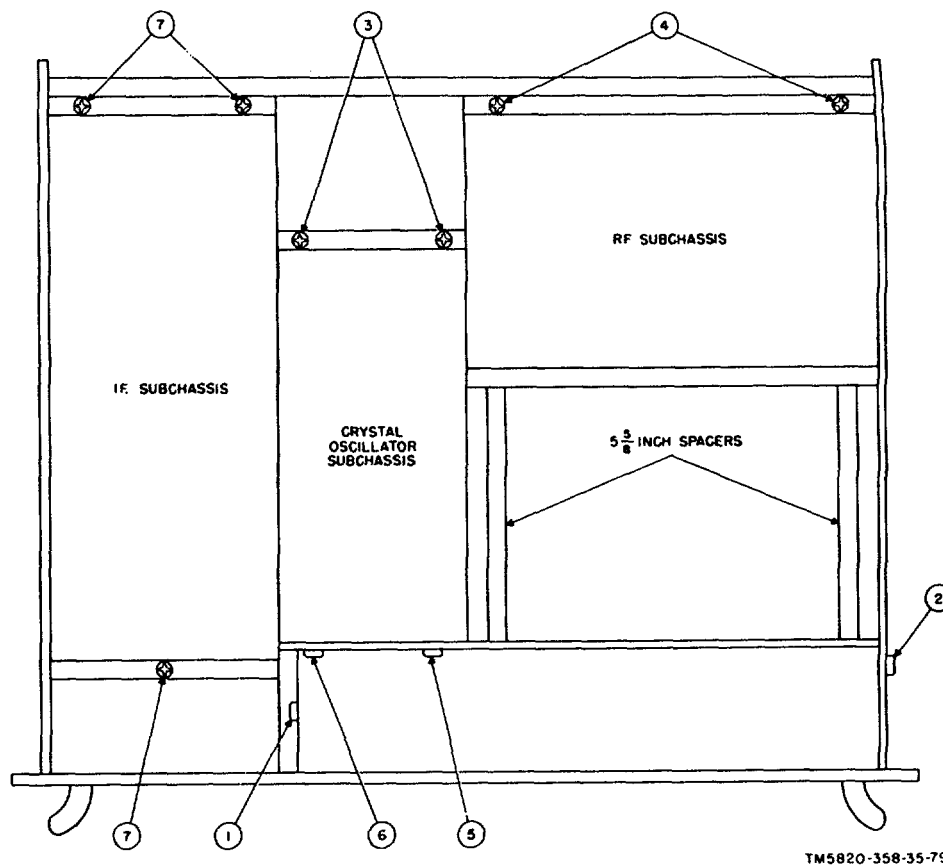

Figure 66. Rf, if., and crystal-oscillator subchassis removal and replacement, location of screws.
- (4) Replace and secure the front panel with the eight 5/8-inch by 8-32 screws and the five 7/16-inch by 6-32 screws and the five lockwashers.
- (5) Tighten the DIAL LOCK hexagonal nut with a 1/2-inch socket wrench. Replace the knob, allowing a 1/8 inch clearance between the knob and the front panel.
- (6) Replace the remaining knobs on their respective shafts. Allow a 1/8-inch clearance between the front panel and the MEGACYCLE CHANGE and the KILOCYCLE CHANGE control knobs.
- (7) Engage and tighten the shaft couplings on the BANDWIDTH and BFO PITCH controls. Be sure that the BANDWIDTH control knob is tightened on the 16 position and that the BFO PITCH control and the ANT TRIM knobs are tightened to 0.
- (8) Turn all the knobs previously removed through their entire range, and check for smoothness of operation and freedom from binding.
59. Removal and Replacement of Rf Subchassis (fig. 66)
- (6) Remove the two 1/2-inch by 6-32 Phillips green-headed screws and lockwashers ((1), fig. 66) through the access hole provided in the left side of the main frame. These two screws are in a vertical row.
- (7) Remove the three 1/2-inch by 6-32 Phillips green-headed screws and lockwashers ((2), fig. 66) that are located at the right side of the main frame. These three screws are in a vertical row.
- (8) Loosen the two green-headed captive screws ((3), fig. 66) and the two green headed captive screws ((4), fig. 66).
- (4) Engage the two green-headed captive screws ((3), fig. 66) at the rear of the crystal-oscillator subassembly; do not tighten them. Engage, but do not tighten, the two green-headed captive screws ((4), fig. 66) at the rear of the rf subassembly.
- (5) Engage the three Phillips greenheaded screws with their lockwashers ((2), fig. 66) and the two Phillips green-headed screws ((1), fig. 66). Engage the two Phillips green-headed screws and lockwashers at the front under the clutch gear and tuning mechanism.
- (6) Tighten all the green-headed screws in the following order:
- (a) Three marked (2).
- (b) Four captive screws marked (3) and (4).
- (c) Two marked (1).
60. Removal and Replacement of Crystal Oscillator Subchassis (fig. 66)
a. *General.* Two methods can be used for the removal of the crystal-oscillator subchassis. This procedure, however, is for the removal of the crystal-oscillator subchassis when the rf subchassis is to be retained in the main frame of the receiver. When the rf and crystal-oscillator subchassis have been previously removed from the main frame, omit the procedures given in (1), (7), and (9) below.
This makes 5/16-inch by 6/32 Phillips greenheaded screws ((5), fig. 66) accessible.
- (4) Remove the screw ((3) above) and its lockwasher and the two greenheaded screws and their lockwashers ((6), fig. 66). The latter two screws are in a vertical row.
- (6) Loosen the two green-headed captive screws ((3), fig. 66) at the rear of the crystal-oscillator subchassis.
- (3) Place the subchassis in position on the deck of the main frame, and carefully slide it forward and engage the drive shaft.
- (4) Engage, but do not tighten, the two green-headed captive screws at the rear of the subchassis.
- (5) Tighten the setscrew in the shaft coupler on the crystal-oscillator drive shaft, and be sure that the coupler and gear are pushed against the oilite bearing on the subchassis.
- (6) Replace the three Phillips greenheaded screws and their lockwashers ((5) and (6), fig. 66) at the front of the crystal-oscillator subchassis. Long-nosed pliers
- (4) Loosen the three green-headed captive screws ((7), fig. 66) that secure the if. subchassis to the main frame.
- (5) Lift the if. subchassis out of the main frame.